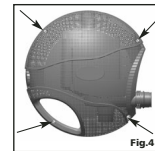
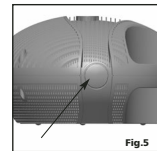

Fig. 4
Fig. 5
Opening and Closing the Pump Cage (see Fig. 4)
- Open the pump cage by unlocking the pivot pin fasteners (Fig. 4)
- The Pump Cage is equipped with a pre-scored section (Fig. 5) that must be cut out with a suitable cutting tool
- Insert a Remote Adapter (9) in the scored opening at the back of the Pump Cage
- Close the cage, ensuring that the two halves are properly aligned and coupled, and then lock them with the pivot pin fasteners (Fig. 4) on the unit
- Remove the pump cage from the pond, unlock the pivot pin fasteners (Fig. 4) and remove the upper half of the cage. Clean all components with streaming water from a garden hose. Reassemble all components with care
Take the pump out of the pond, unlock the pivot pin fasteners (Fig. 4) and remove the upper half of the cage. Free the pump from the lower half of the cage. Proceed with the following cleaning instructions as per pump model: